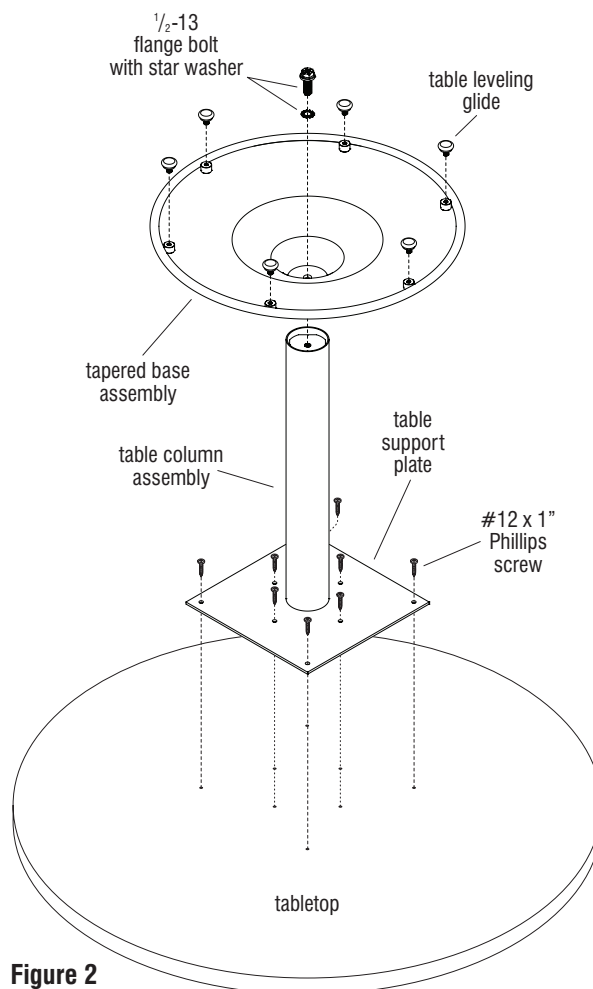

Figure 2
3. Carefully flip the table column assembly over so the table support plate is down. Position the tapered base assembly over the table column as illustrated, aligning the mounting hole in the disk with the threaded plate in the column. Insert a star washer onto the $\frac{1}{2}$ -13 flange bolt and thread the bolt with washer through the disk and into the column to secure. Tighten bolt to between 70 and 90 foot-pounds of force (Figure 2).
5. Carefully set table top upside down onto a soft, protective surface. Position the table support plate of the table base assembly over the appropriate pre-drilled hole pattern in the underside of the worksurface. Secure using eight #12 x 1" Phillips pan head screws. Do not over-tighten (Figure 2).